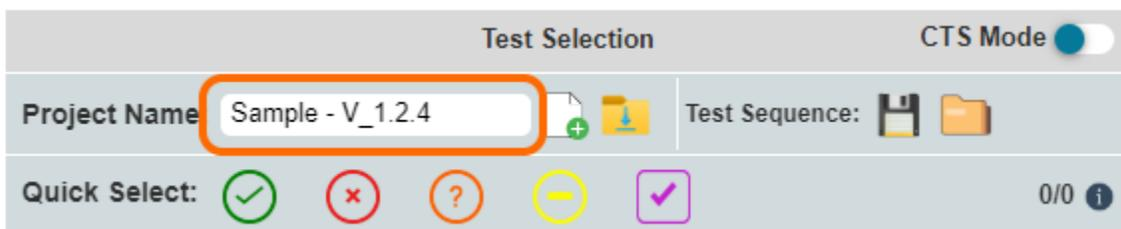

FIGURE 8.33: CREATE NEW PROJECT— #3
3. The new project will be created with the provided project name and selected certification standard as shown in the Figure 8.33 example below. The user can now proceed with the test configuration.